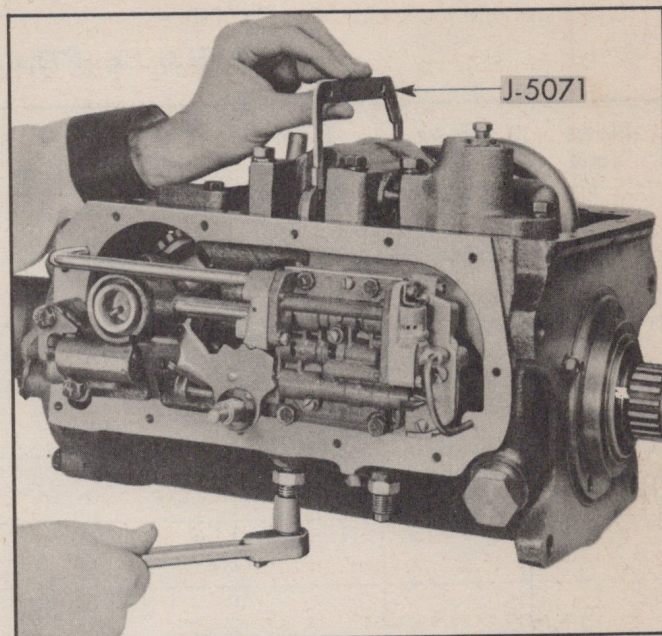

Fig. 80—Adjusting Rear Band
1. Place servo gauge J-5071 on finished surface of accumulator body, having leg of gauge resting on servo stem (Fig. 80).